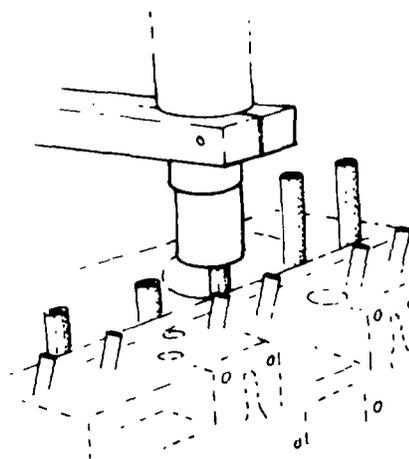

Fig. 20 — Installing New Valve Guides
b. Press the valve guides into the head using tool J-25258-1 or equivalent (see fig. 20).